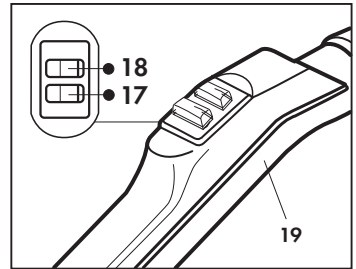

Fig. 16
Press the vacuum control button (18) on the work hose to activate or deactivate the blowing function. Holding down the button will increase or decrease suction power (Fig. 16).